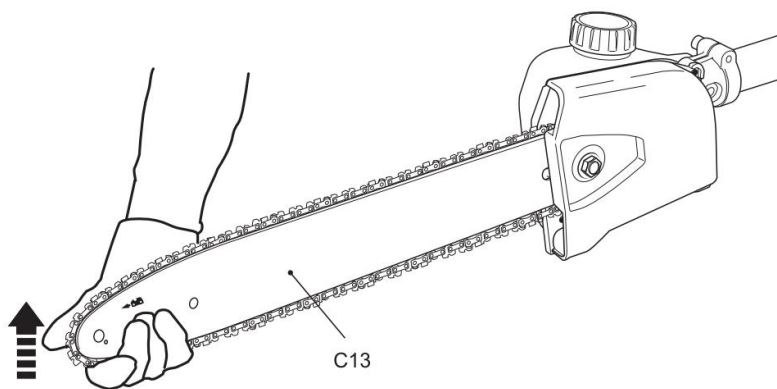

Fig. 13
- 2) Lift up the tip of the guide bar (C13) and keep it there as you adjust the tension (Fig. 13).